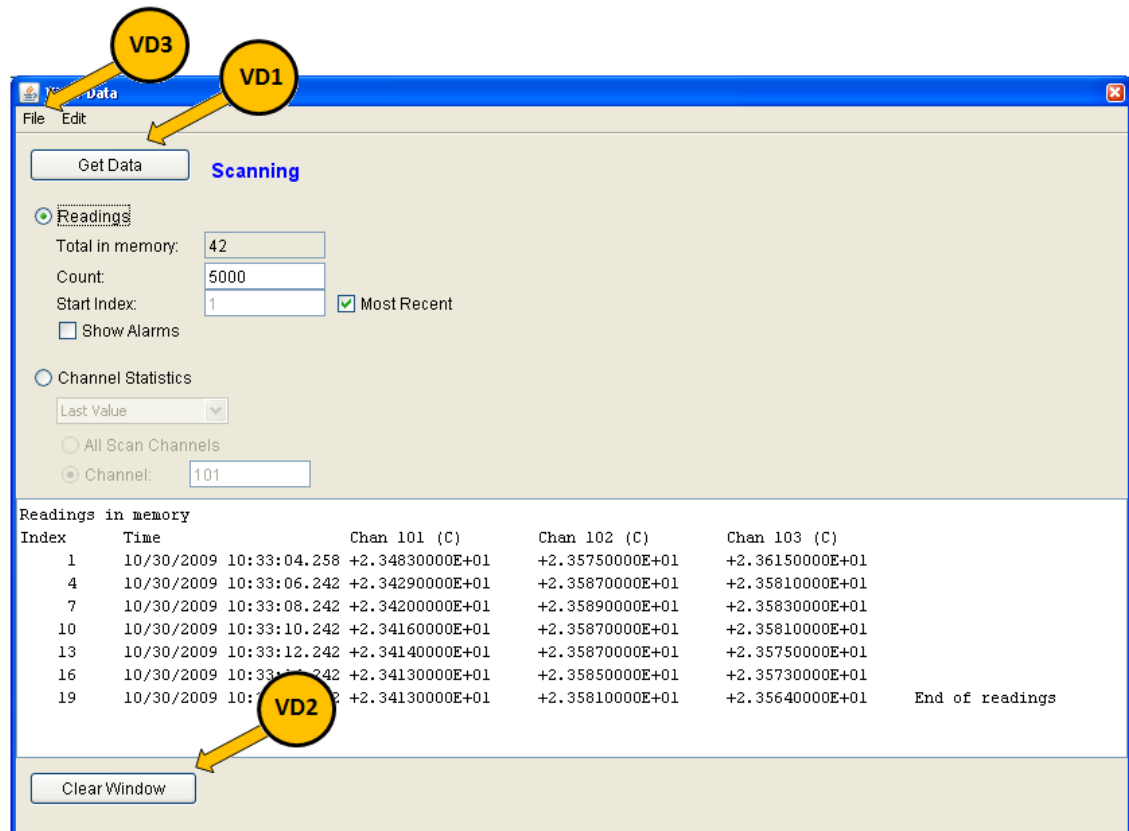

Figure 9, 34972A View Data window
- Press the **View Data...** button (SC6) and the **View Data (VD)** window (figure 9) will open
- **Function:** select Temp 10K Therm, DCV or Frequency as shown in figure 9